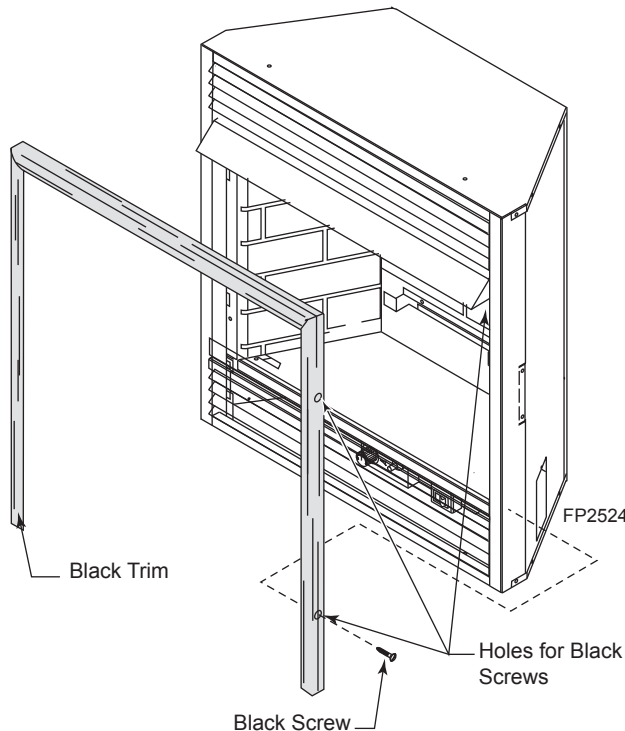

Figure 38 -
NOTE: If you do not attach the trim at the correct corners, use a hammer and screwdriver to tap on the one end of the 90° angle bracket. This will separate the two pieces of trim. *Figure 38*
5. Place assembled black trim on front of heater. Using four (4) black screws, secure black trim to sides of heater. *Figure 38*